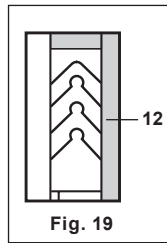

Fig. 19
- Remove the lock-nut from the stem (20), and withdraw the plug stem assembly (with cage on balanced versions).
- Withdraw the PTFE packing (12) and discard. Remove all metal components, washer (14), spring (8), bearing (9) and spacers (10) carefully noting how many components have been removed as it will differ on each valve size. Clean and examine these components replacing any that show signs of damage or deterioration.
- Clean the gland cavity and reassemble the gland components in the order shown in Figure 17. **Note** that the lower bearing must be fitted with the radius edge downwards. When fitting the chevron seals they should be inserted one at a time (see Figure 19). It may be necessary to compress the spring and seat using the gland nut after fitting two or three chevrons and to repeat this at similar intervals until all PTFE components are in place.